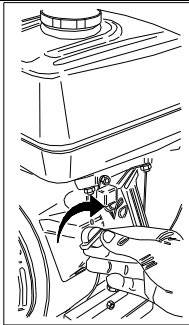
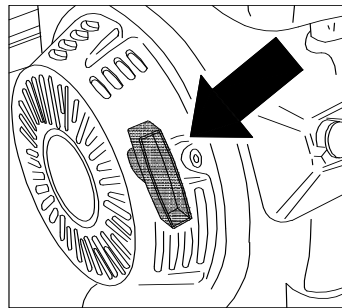

Fig. 8
Fig. 9
- Put the selector at position "I" (Start) (fig.8). Grasp the starting knob (fig.9) and pull the cord without force until you feel the resistance caused by compression, release the knob and then give a sharp tug to start the engine.